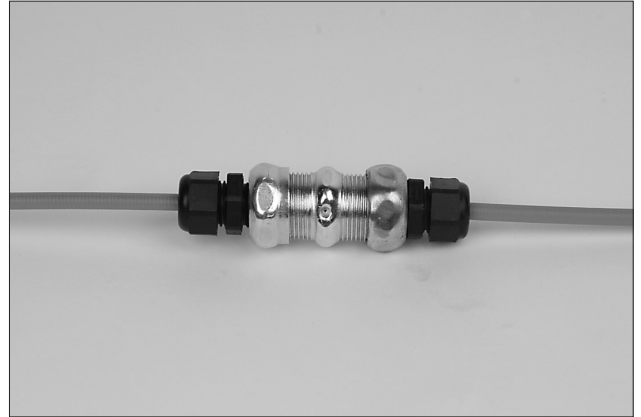

FIGURE 4-78
11. Push flexible conduit into strain relief until it is approximately 1/16 in. (1.6 mm) from bottom of the flexible conduit insert, then tighten strain relief nut onto strain relief body. See Figure 4-78.